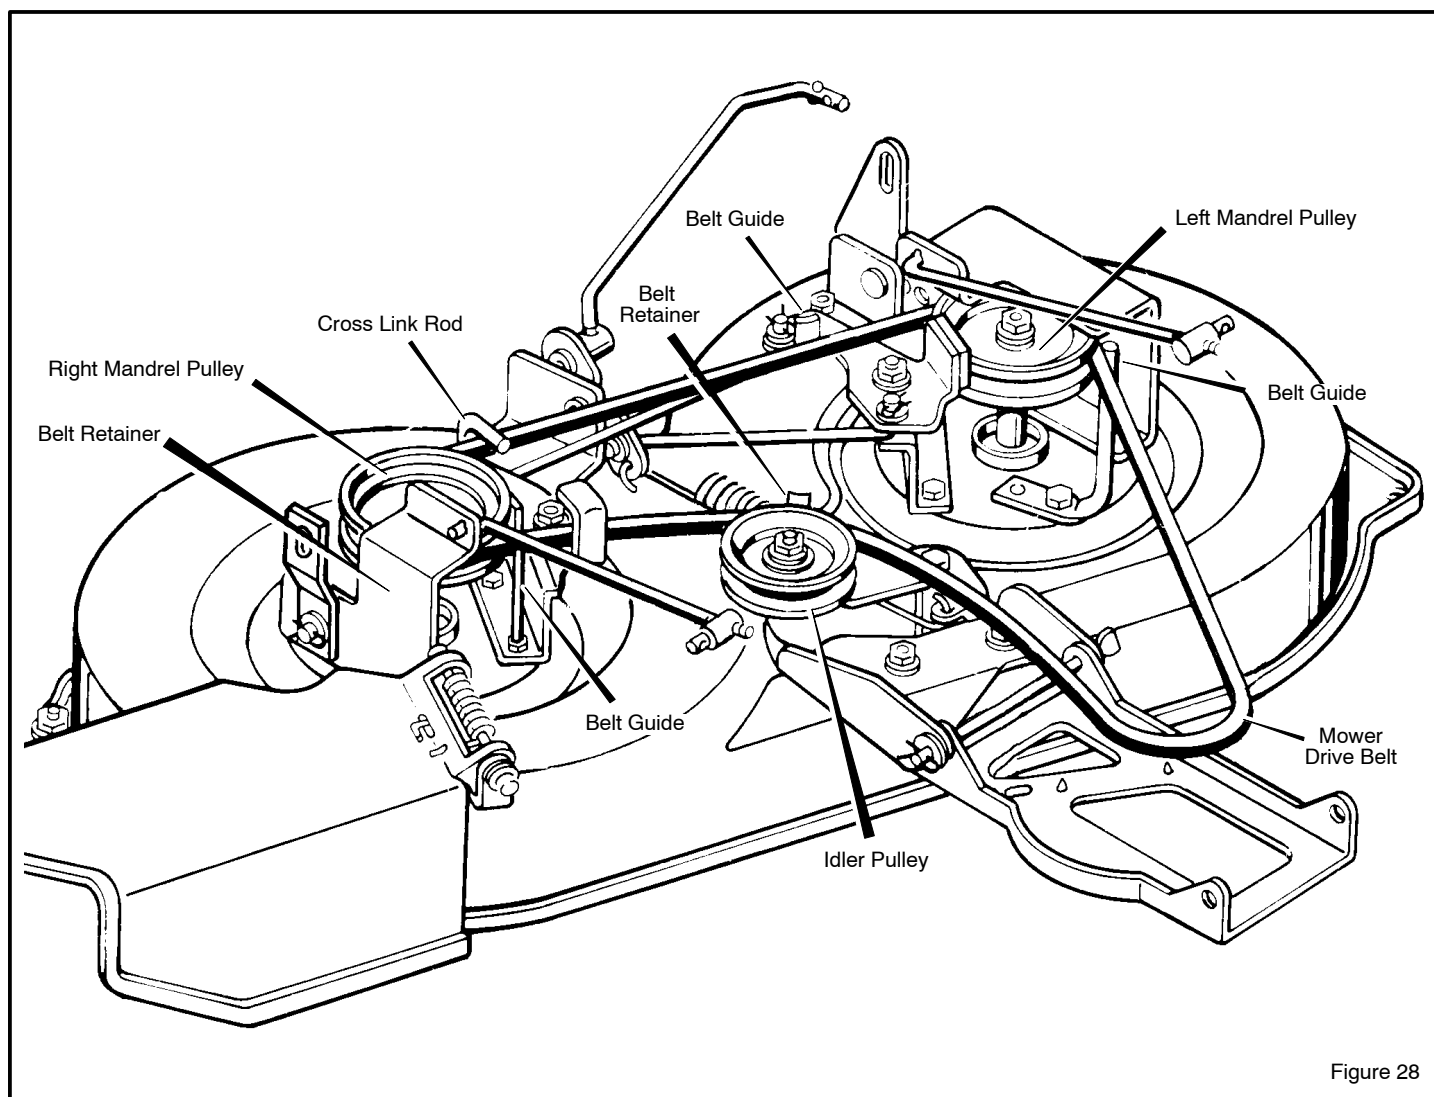

Figure 28
2. Pull the **belt retainer** away from the **idler pulley** and remove the **mower drive belt** (Figure 28).